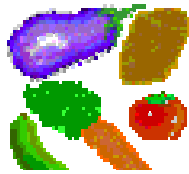

Figure 25.
**VEGETABLE** is a plant whose stem, leaves, tubers, roots, bulbs, or flower is a food source for people. Some examples of vegetables include carrots, eggplant, potatoes, spinach, broccoli, onion, and asparagus. *Refer to Figure 25.*